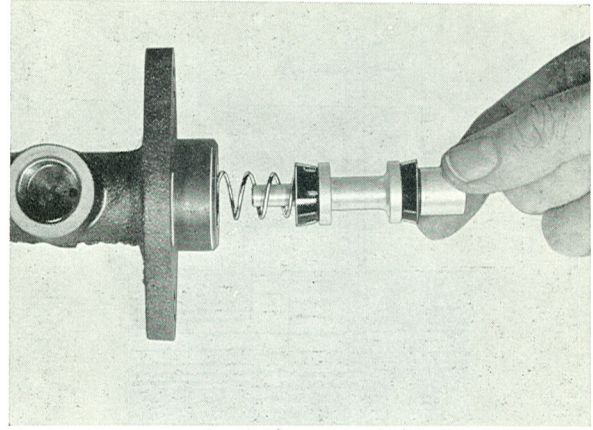

Fig. 5-48. Fitting the secondary piston
2. Coat the cylinder with brake fluid and dip the piston and seals in brake fluid before fitting. Slide the spring (19) onto the secondary piston (3) and fit the piston, see Fig. 5-48.